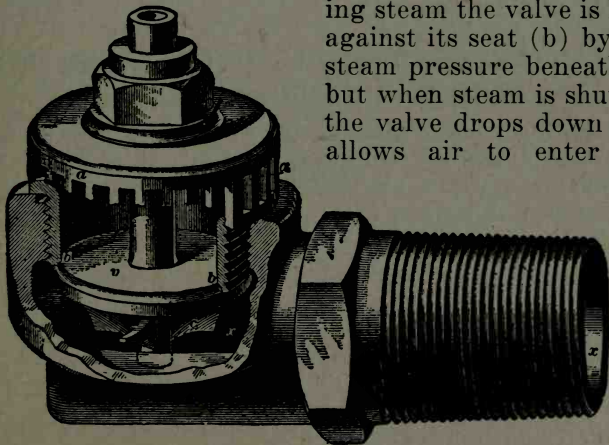

Fig. 11. RICHARDSON RELIEF VALVE
A relief valve is used to prevent a vacuum forming in the steam chest and cylinders when running with steam shut off. A view of the Richardson relief valve is shown in Fig. 11, in which part of the casing is broken away to show the check valve (V). The valve is screwed into the front of the steam chest so that the chamber below the valve (V) communicates by means of the passage (X) with the steam chest. The chamber above the valve communicates with the atmosphere through the opening (A) in the valve case.